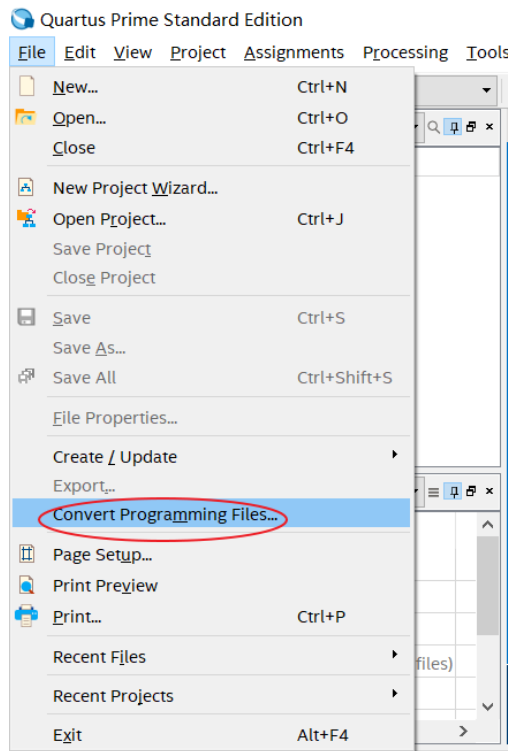

Figure 6-1 Quartus Prime File Menu
1. Choose **Convert Programming Files** from the File menu of Quartus Prime, as shown in **Figure 6-1**.